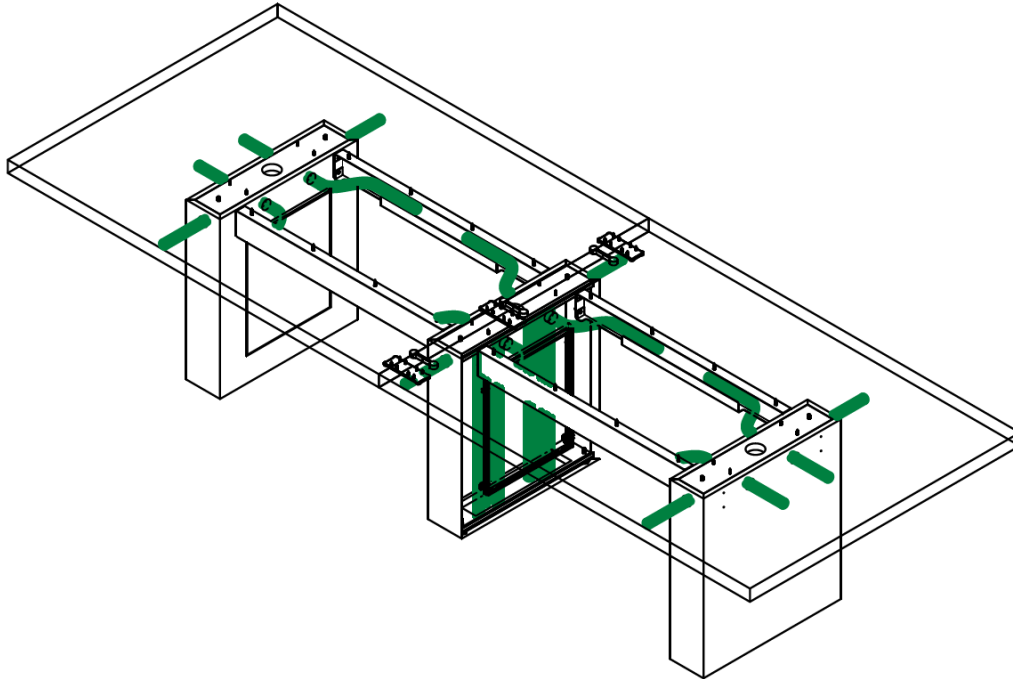

FIGURE 05
1. Cable management from the floor to the tabletop is handled via the access panels on the bases (B). Aprons (C) function as horizontal cable trays. See Figure 05.